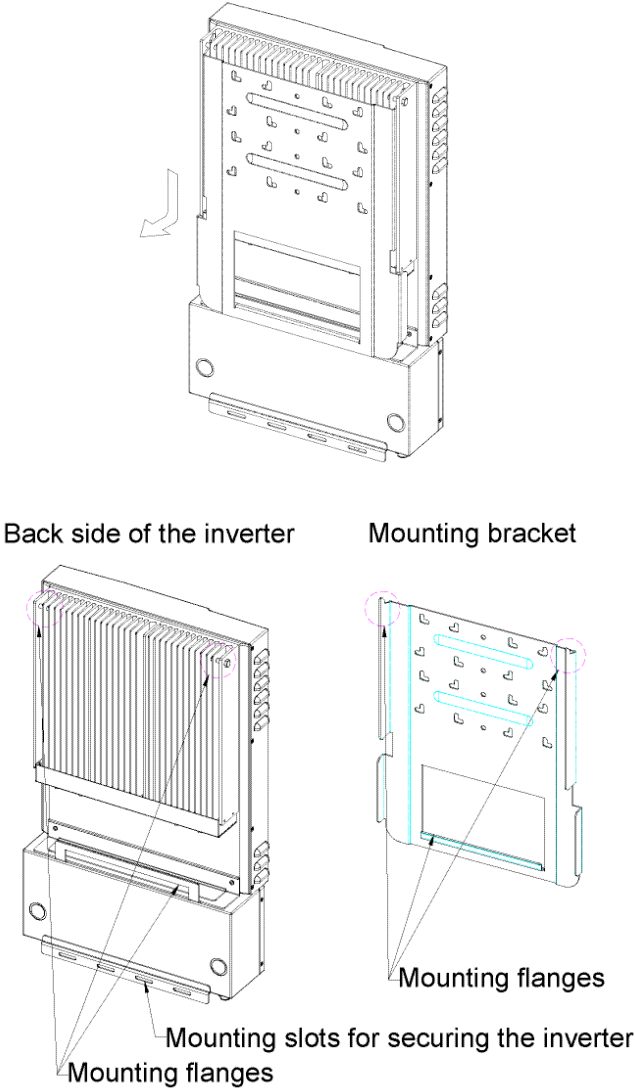

Fig 2.2.1 Removal of the mounting bracket from the inverter
- 1. After removing the inverter from the carton, the attached mounting bracket must be removed by sliding the bracket down and away from the inverter as shown in the figure 2.2.1 below.